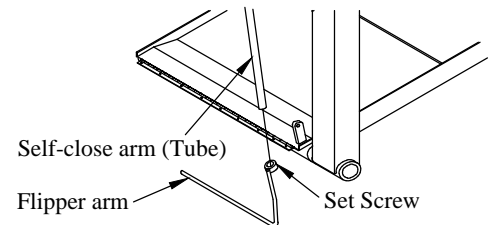

Figure 25: Flipper arm location.
9. **Install** the flipper arm over the self-closing tube (Figure 25).
10. **Tighten** the 1/4" set screw on the flipper arm (Figure 25).